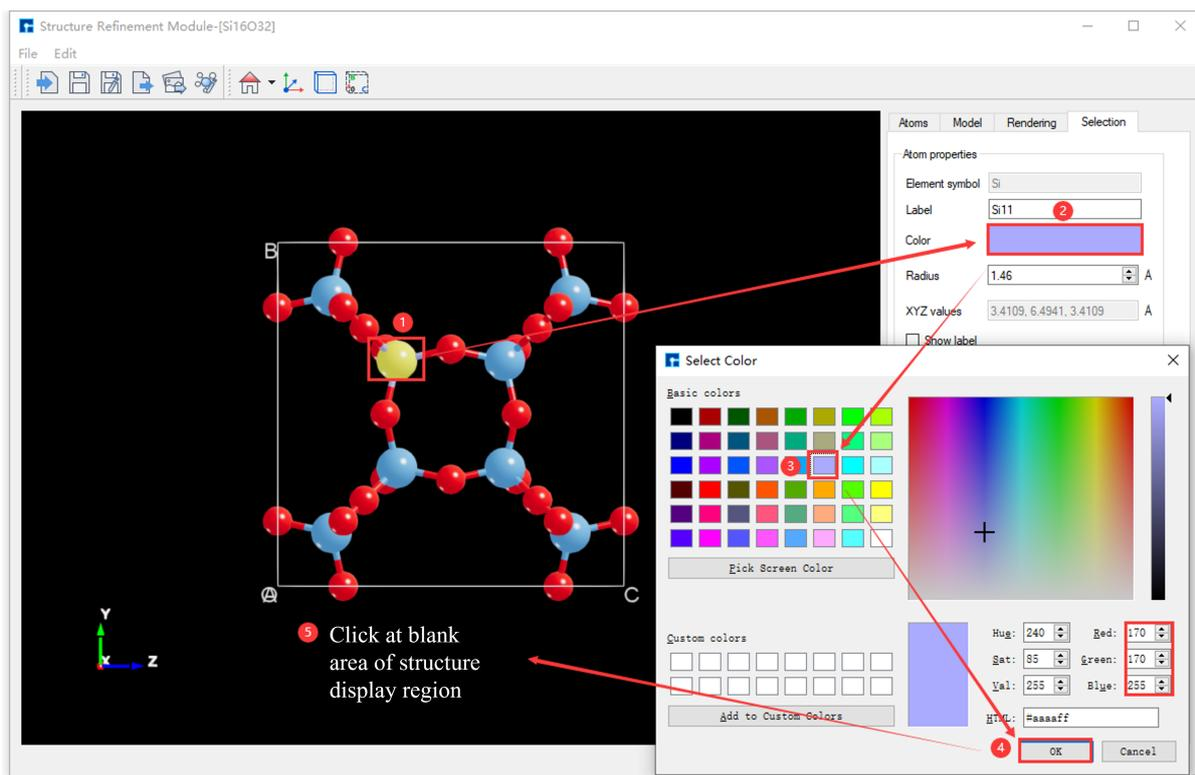

fig. 6.32: Select Atom: Modify the color of atom si11 in the Si16O32 crystal structure to RGB value [170 170 255] in the operation interface.
2. Method 2: Click on the Si11 atom with the mouse, as shown in fig. 6.32, to modify the color of the Si11 atom in the Si16O32 crystal structure to RGB value [170 170 255].
The Si16O32 crystal structure contains two elements, Si and O. Figure fig. 6.33 shows the interface for modifying the color of all elements in the Si16O32 crystal structure (essentially switching to the colors of Device Studio template 2) based on fig. 6.32. The modified interface is shown in fig. 6.34.